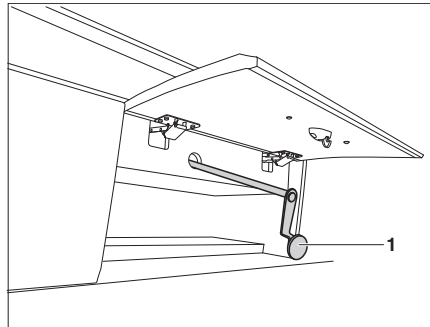

Fig. 165 Emergency operation for the electrical pull-down bed
- In the case of a power failure the electrical pull-down bed can also be moved with an emergency crank (Fig. 165). This is located behind a storage compartment flap.